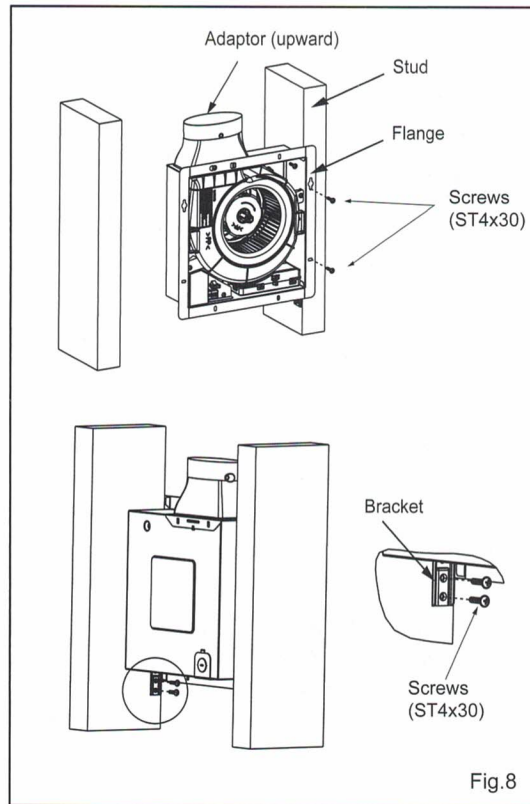

Fig.8
1. Fix the flange of frame to stud by two long screws (ST4x30), and fix the bracket to stud by two long screws (ST4x30). (Fig.8)